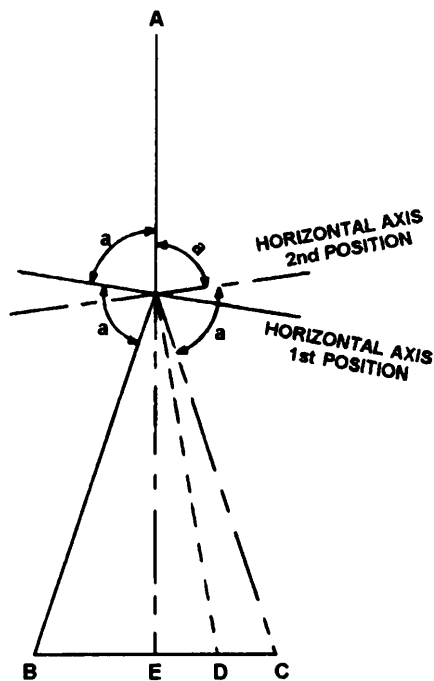

Figure 6-6.—Adjusting the line of sight.
**ADJUSTING THE LINE OF SIGHT.**— In a perfectly adjusted telescope, the line of sight should be perpendicular to the horizontal axis at its intersection with the vertical axis. To make the line of sight perpendicular to the horizontal axis (fig. 6-6), you should proceed as follows: